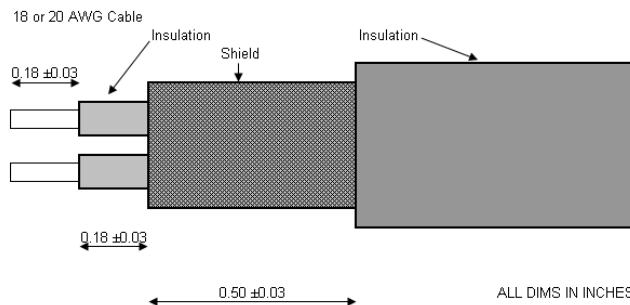

Figure 2
- 1) Prepare cable leads as shown in Figure 2.